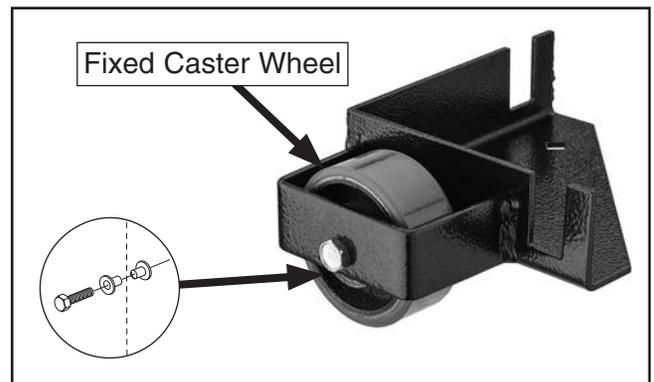

Figure 6. Wheel attached to rear corner bracket.
4. Attach wheel to each rear corner bracket with M10-1.5 x 55 shoulder bolt and (2) bearing sleeves (see **Figure 6**).